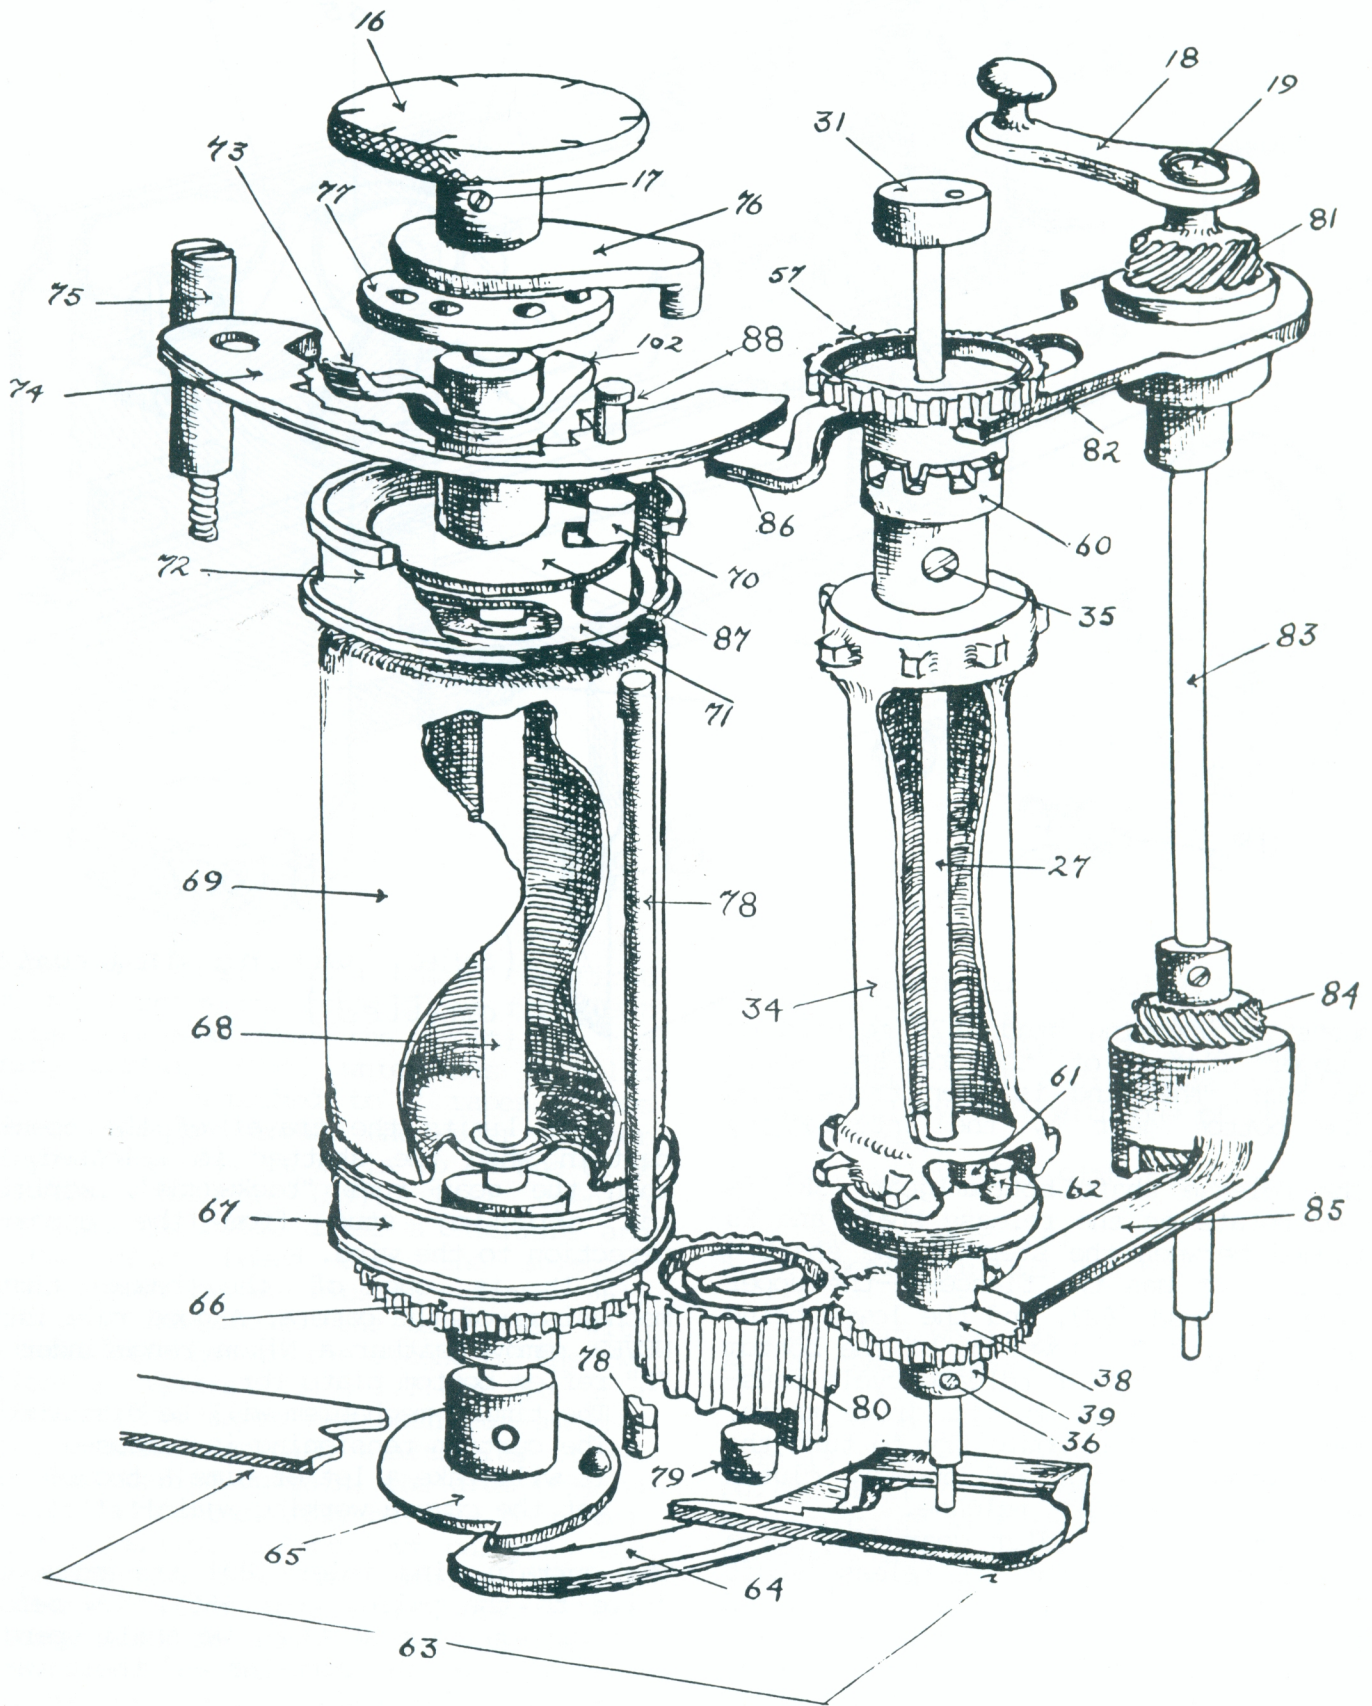
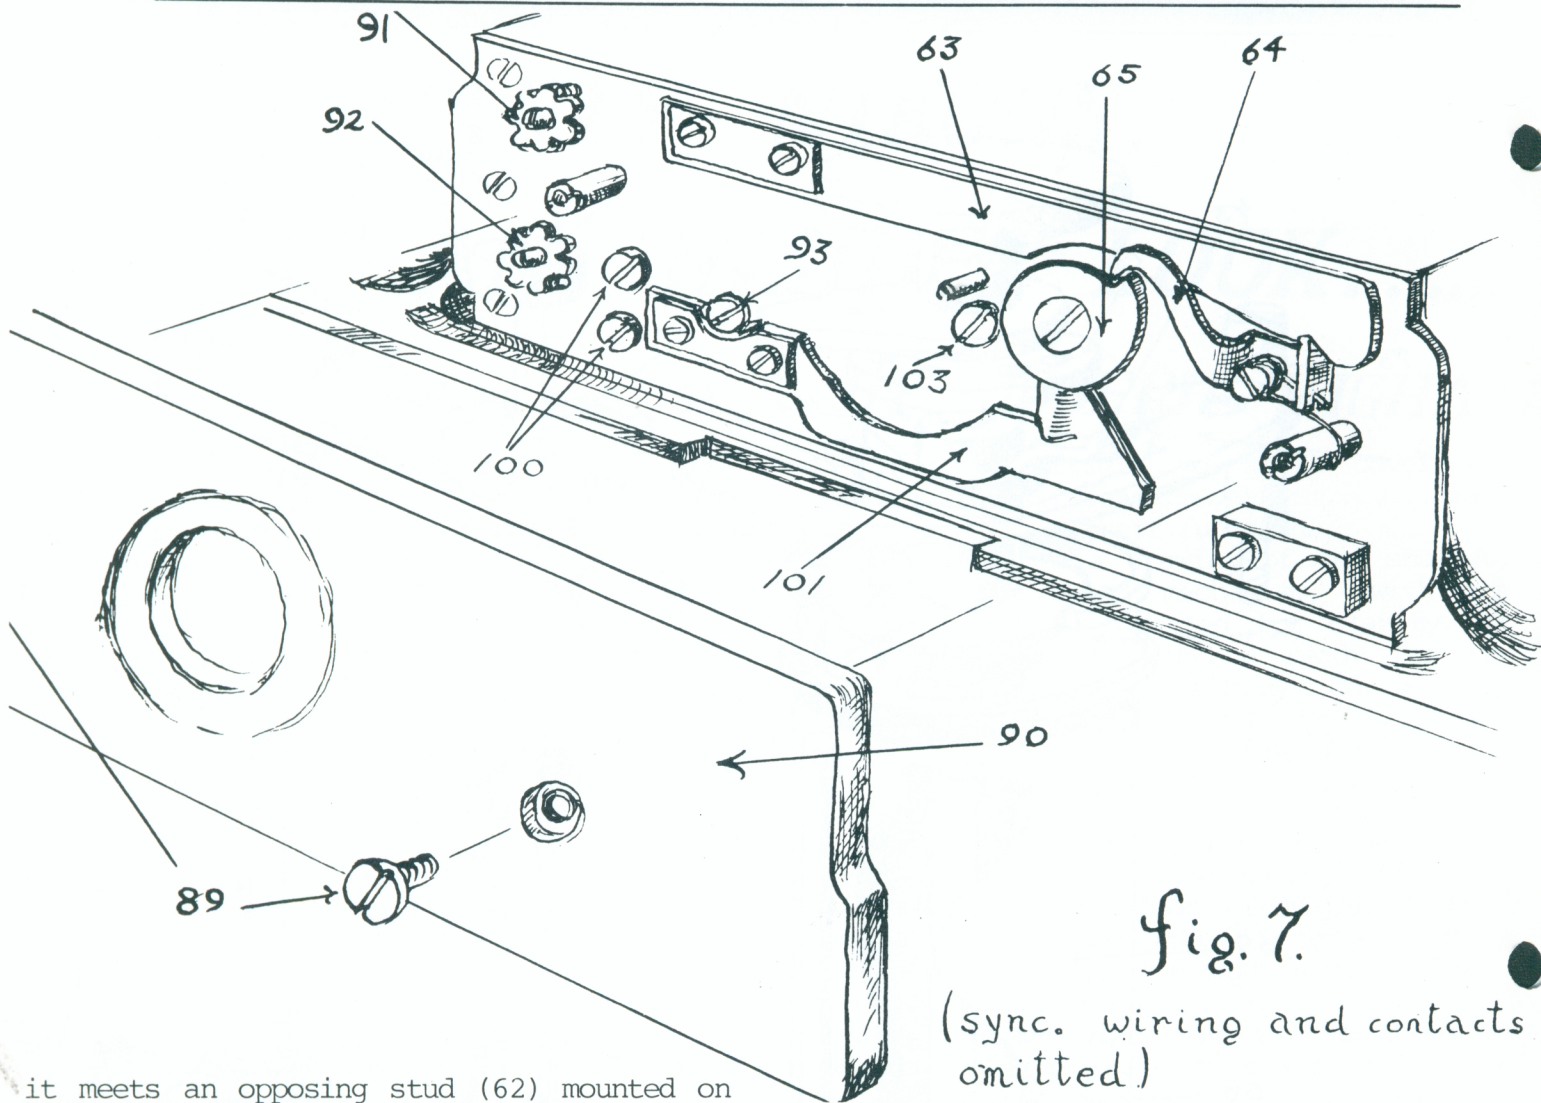

fig. 6
fig. 7.
1. Remount the release shaft (27) by threading it through the splined wind gear (57), sprocket, the release shaft lower gear (38) & collar (39), insuring that the shaft is seated in its hole in the bottom plate & resting on the flat release spring (Fig.6,#63). Revolve the release shaft til the groove (29) is visible through the hole for the threaded pin (35). Replace the pin. Check that the shaft is free to slide! Hold the release shaft lower gear (38) against the shoulder of the stepped release shaft, position the collar (39), & tighten the collar set screw (36) whilst slightly moving the release shaft until the set screw settles in the dimple (30).
2. Screw on the high speed knob (16) and tighten its set screw (17).
4. Slide the wind gear assembly (15) over its shaft & mesh the winding gears. It will be loose, but still winds the shutter.
5. Take off the bottom cover (Fig.7,#90) by removing the 2 screws (89).
Figure 6 is a drawing of the shutter, sprocket, & rewind mechanism, with the surrounding parts omitted for clarity. It shows the shutter wound & ready for release. The shutter configuration is pure Leica screw mount, and, like the S2, has a "pin & hole" timing mechanism. In total, it is a simple, yet precise, solution to a difficult problem.
We shall start at the release button (31), follow the release shaft, cross the gear train at the foot of Fig.6, & then upwards through the pulley & drum assembly to the shutter timing & part of the release mechanism (high speeds only).